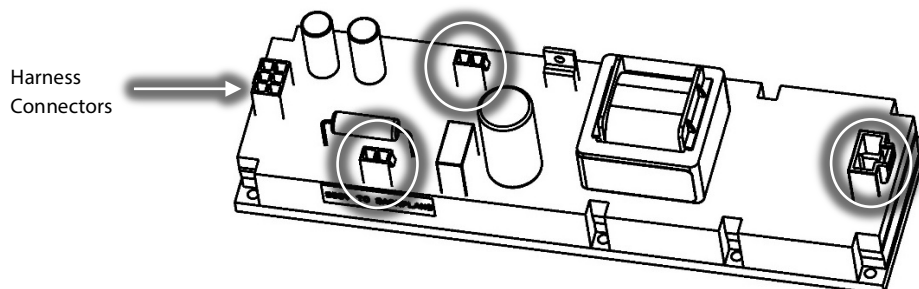

Figure 17 – DC-DC Harness Removal
29. Disconnect all wiring connections from the HV DC-DC. Refer to Figure 17 (DC-DC Harness Removal).
26. Reconnect all electrical connections to the HV DC-DC converter. Refer to Figure 17 (DC-DC Harness Removal).